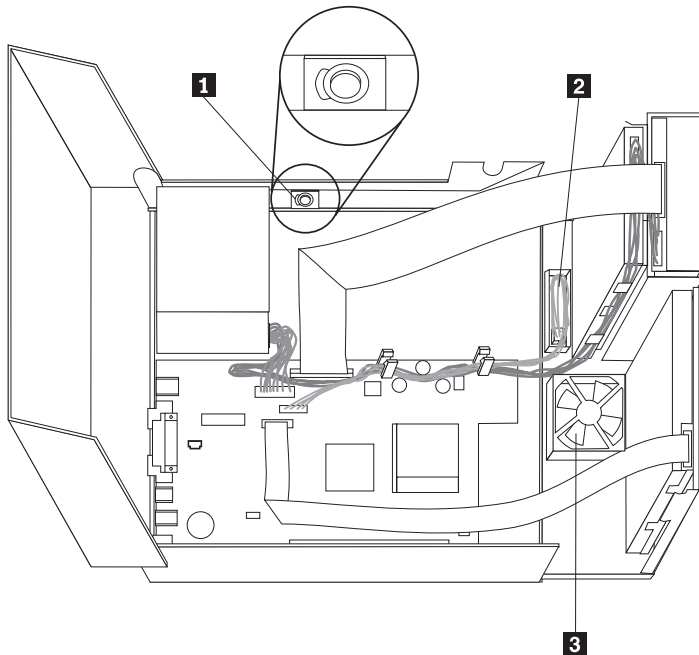

Figure 1. Speaker, fan, power button and LED assembly
4. Locate the speaker **1**. See Figure 1 on page 43.
5. Lift the tab and slide the power button and LED assembly **2** out. See Figure 1 on page 43.
2. Rotate the drive bay assembly upward to gain access to the fan assembly **3**. See Figure 1 on page 43.